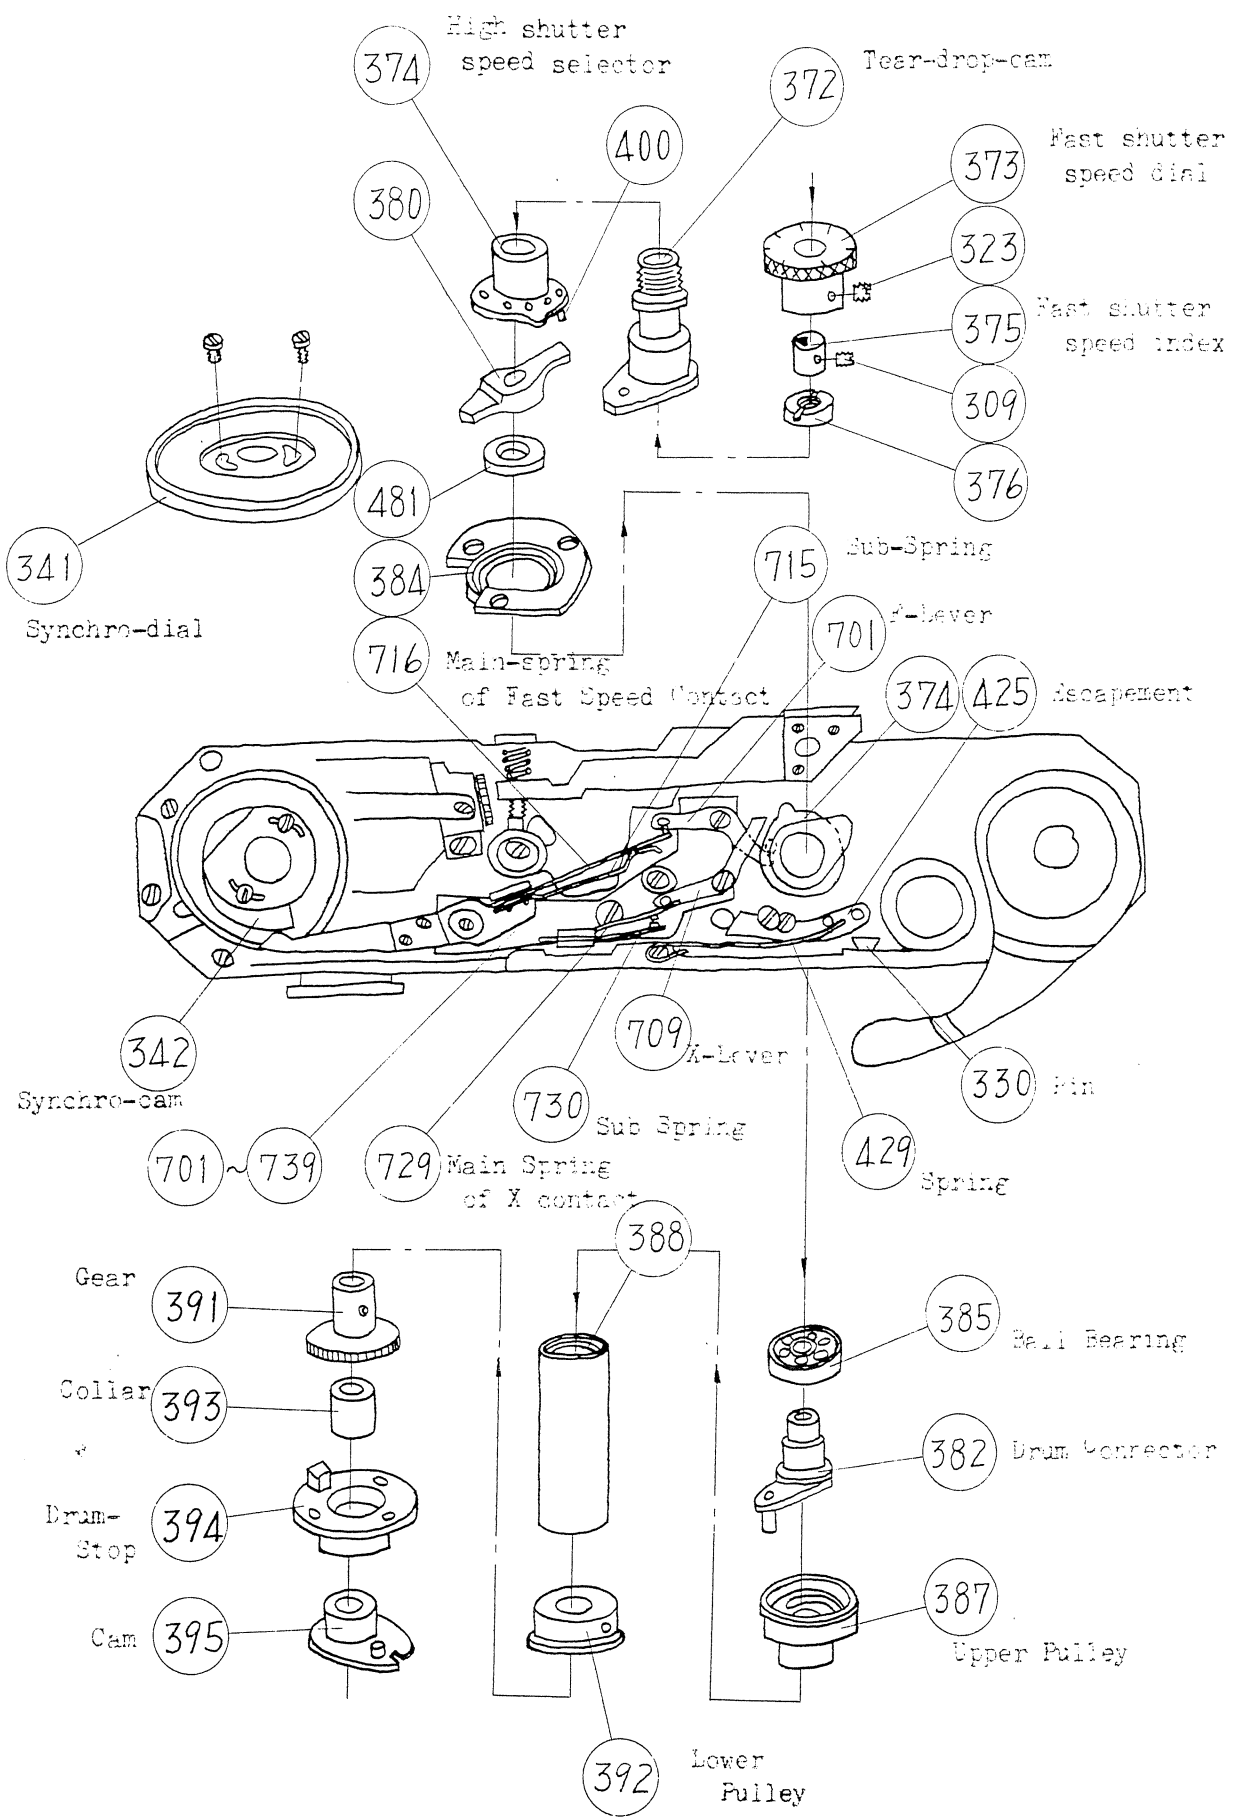

Fig. 9
- (1) Remove the camera back.
- (2) Remove the front-cover, focusing mount assembly, light-baffle, bottom-cover and top cover according to "1" - "6" respectively.
- (3) Refer Fig. 9 Remove: